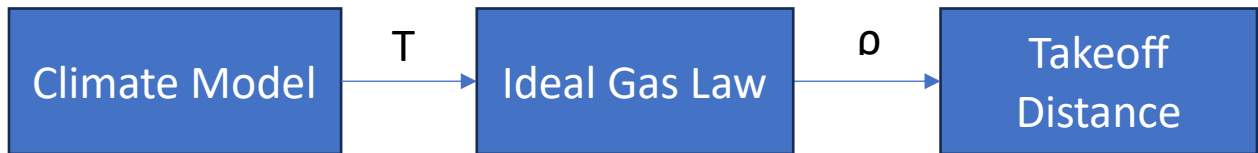

Figure 1. Calculate aircraft takeoff distance, from climate model outputs
4. This question asks you to explore how aircraft takeoff distance may be affected by increasing temperatures (as forecasted by climate models). To calculate takeoff distance, you will have to take the temperature data from Q1-3 climate model outputs, and transform it according to Figure 1, and the following equations.